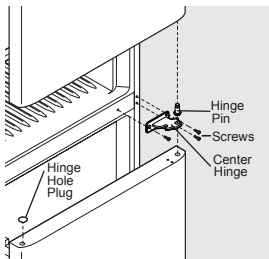

Figure 3
5. Unscrew the center hinge pin using an adjustable wrench and set it aside (see Figure 3).
7. Remove the 3 center hinge screws using a Phillips screwdriver and set the center hinge aside (see Figure 3).